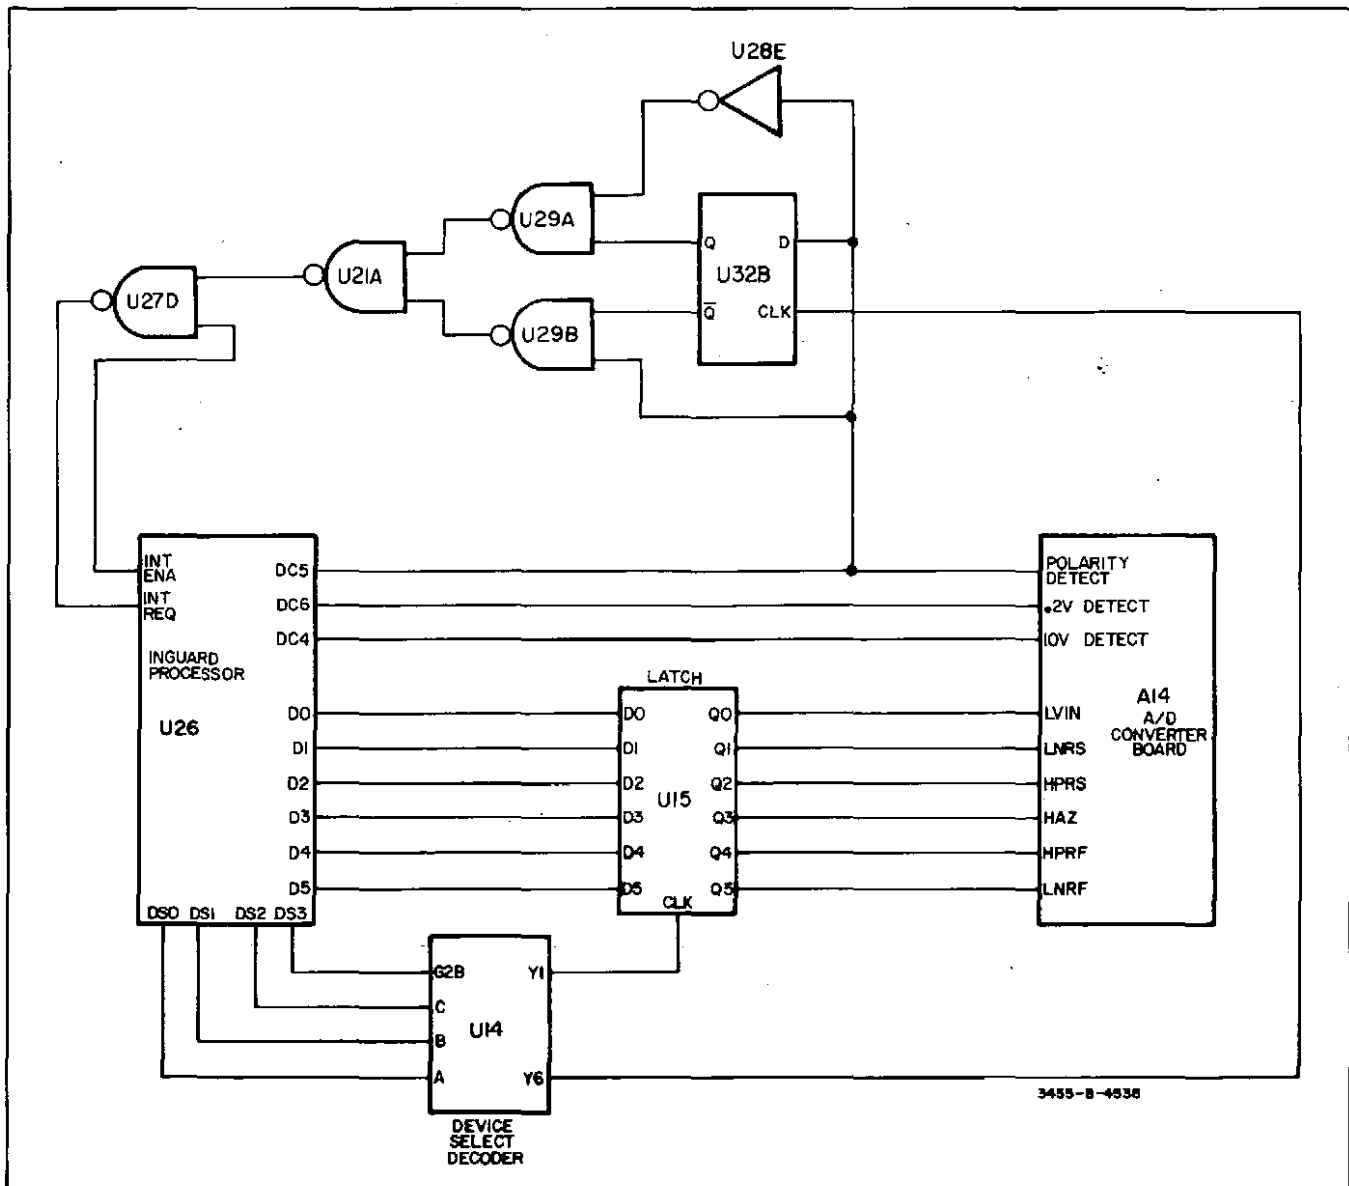

Figure 8-34. Simplified A/D Converter Control Circuit.
**8-111. A/D Converter Control Circuitry.** Figure 8-34 shows the control circuitry between the inguard processor and the analog-to-digital converter. There are six output lines from the inguard controller which control the input, reference, and auto-zero switches in the A/D Converter. Each output line controls one of the six switches in the converter. Switching information for the A/D Converter is set on the processor's data bus (outputs D0 through D5)